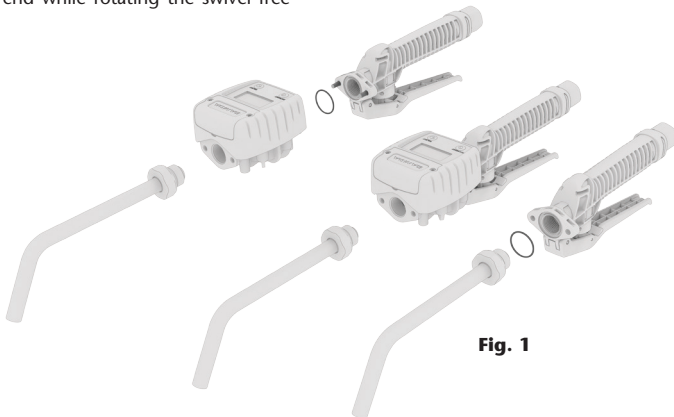

Fig. 1
- To ensure the sealing, mount the extension outlet using the provided FKM o-ring, taking care that the position of the o-ring housing is correct (figure 1). Lubricate the o-ring before mounting.